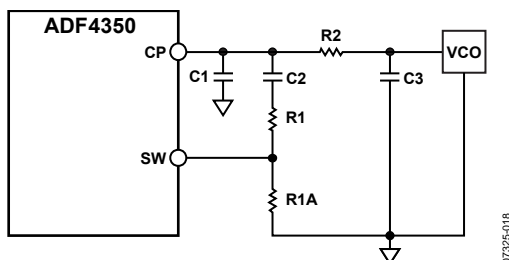

Figure 31. Fast-Lock Loop Filter Topology—Topology 1
- The damping resistor (R1) is divided into two values (R1 and R1A) that have a ratio of 1:3 (see Figure 31).